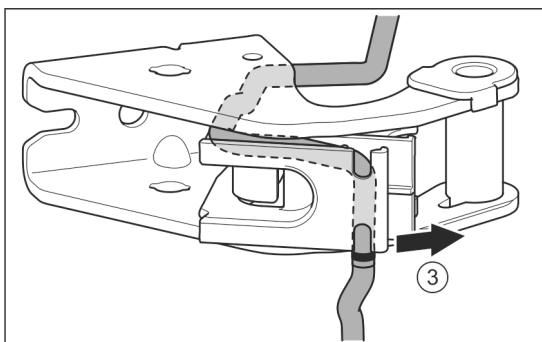

Fig. 25
- Remove the cable from the guide. Fig. 25 (3)